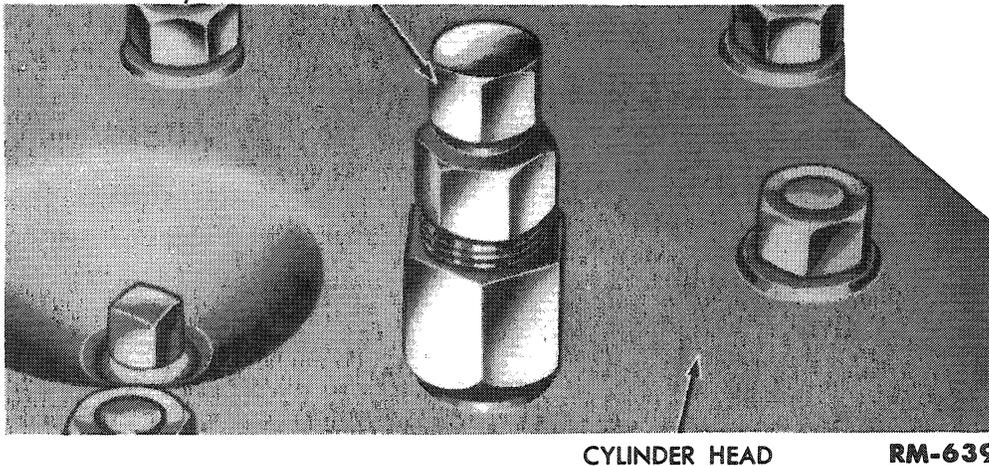

Fig. 13—Removing Cylinder Head Stud
c. **Stud Replacement.** Remove all damaged studs with a standard stud puller (fig. 13). To remove a broken stud, indent the end of the broken stud exactly in the center with a center punch. With a small drill, drill into the broken stud to a depth of approximately two-thirds of the length of the remaining portion of the stud, then follow up with a larger drill. The larger drill selected must leave a wall thicker than the depth of the threads. Select an extractor (EZ-out) of the proper size and insert it into the drilled hole, and screw out the remaining part of the broken stud. Install a new stud with a stud driver. Drive all studs until no threads show at the bottom of the stud.